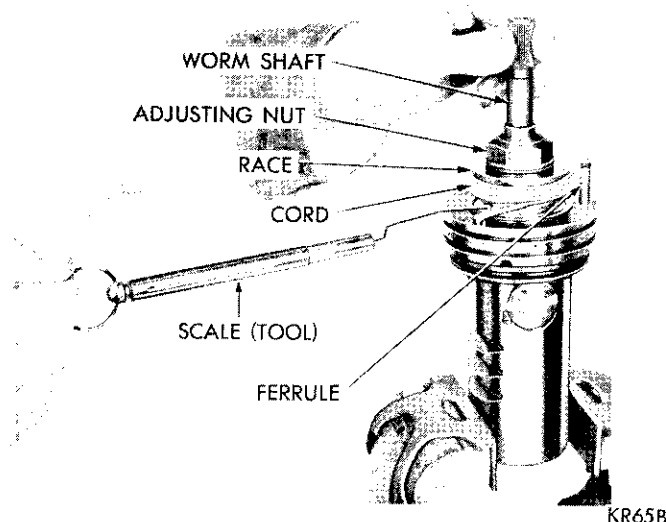

Fig. 20—Checking Center Bearing Preload
(34) Turn wormshaft clockwise one-half turn. Hold wormshaft in this position with splined nut, Tool C-3637 and socket wrench, and hold in this position thru items 35 and 36, then tighten nut to 50 foot-pounds to prestretch wormshaft threads.
(35) Loosen adjusting nut. Place several rounds of cord around center bearing race (Fig. 20). Make a loop in one end of cord and hook loop of a distributor breaker arm spring scale Tool MTU-36 in cord loop. Pulling cord will cause bearing race to rotate. Retighten worm bearing adjusting nut while pulling on cord with scale. When adjusting nut is tightened properly, reading on the scale should be 16 to 24 ounces (20 ounces preferred while the race is turning).
(36) Stake upper part of wormshaft adjusting nut into knurled area of shaft.